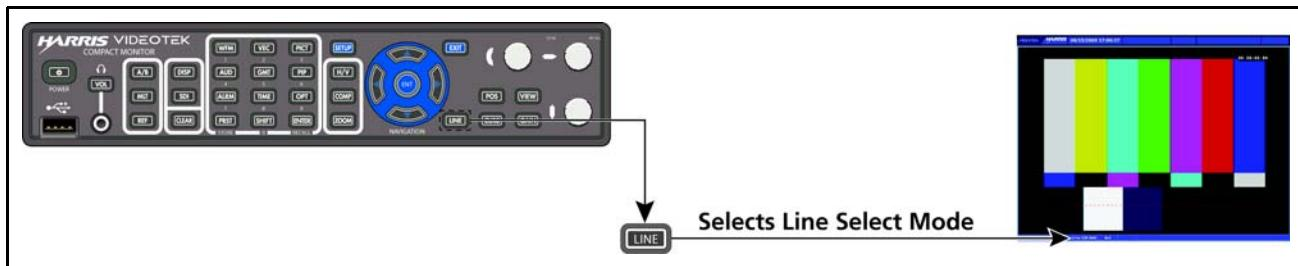

Figure 4-27 Establishing Line Select
- 1 A cursor appears on the selected line, as shown in **Figure 4-27**.